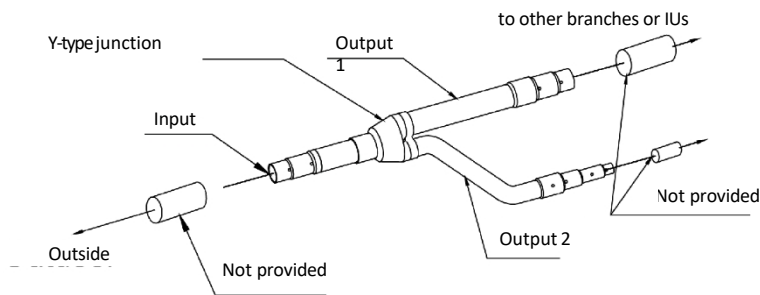

Fig. 20
- ② The Y-type branch pipe has several pipe sections of different sizes, making it easy to connect to multiple copper pipes. Use a pipe cutter to cut the pipe section to the proper size, then remove any burrs. See Fig. 20.
- ③ The Y-branch pipe must be installed vertically or horizontally.